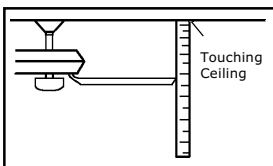
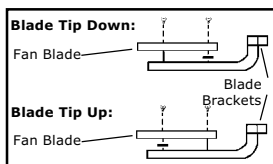

Figure 1
Figure 2
4. Most fan wobble problems are caused when blade levels are unequal. Check this level by selecting a point on the ceiling above the tip of one of the blades. Measure this distance as shown in Figure 1. Keeping measure within 1/8", rotate the fan until the next blade is positioned for measurement. Repeat for each blade. If all blade levels are not equal, you can adjust blade levels by the following procedure. To adjust a blade tip down, insert a washer (not supplied) between the blade and blade holder at the screw closest to the motor (Figure 2). To adjust a blade tip up, insert washer (not supplied) between the blade and blade holder at the two screws farthest from the motor (Figure 2). (Note: For fans with floating blade holders, washers must be placed on the top of the blade and under the blade arm. Washer on outer-most holes will cause the blades to point down and washers on the inner screws will cause the blade to point up.